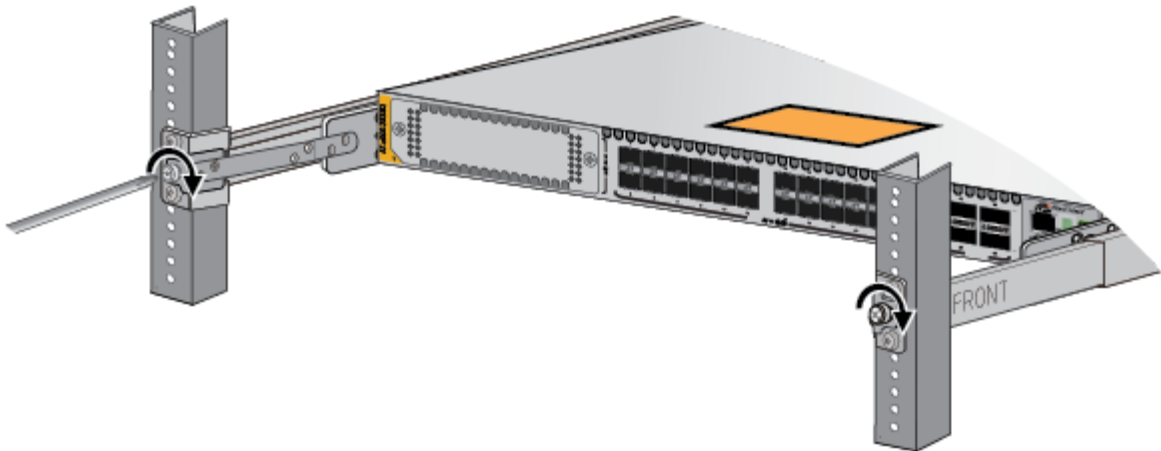

Figure 120. Tightening the Two Screws on the Fixed Brackets
4. Tighten the two screws on the fixed brackets to secure the switch to the equipment rack. Refer to Figure 120.